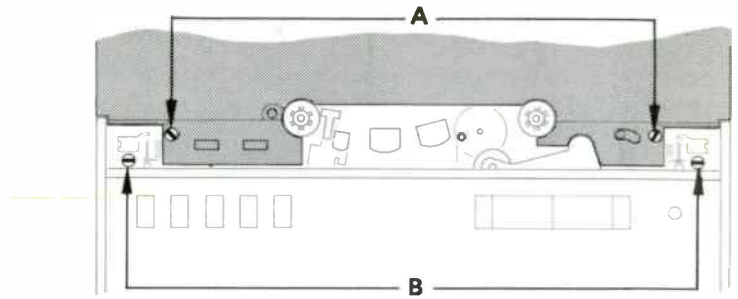

Fig. 3.2-4
- Undo screw A (fig. 3.2-4). Pull cover panel off (Upper rim, 3 retainers).
- Undo screws B (fig. 3.2-4). Pull out power switch knob as well as all rotary knobs and discs. Save retaining ring of power switch.